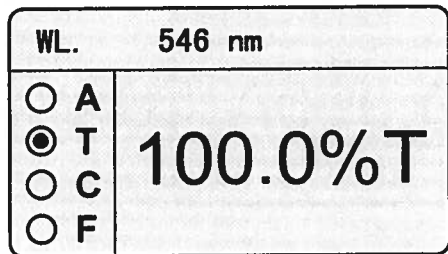

Fig. 4-4
- 1) Press **MODE** to choose the mode of "T" (Fig. 4-4);